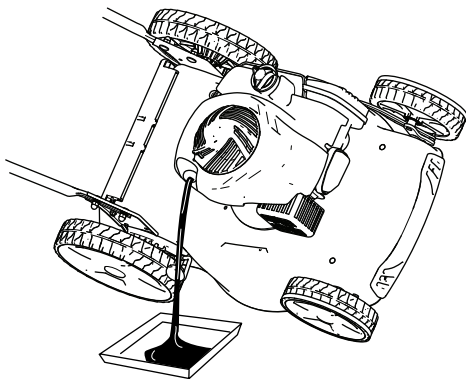

Figure 25
4. Tip the machine onto its side (so that the air filter is up) to drain the used oil from the oil-fill tube (Figure 25).
10. Read the oil level on the dipstick (Figure 25).